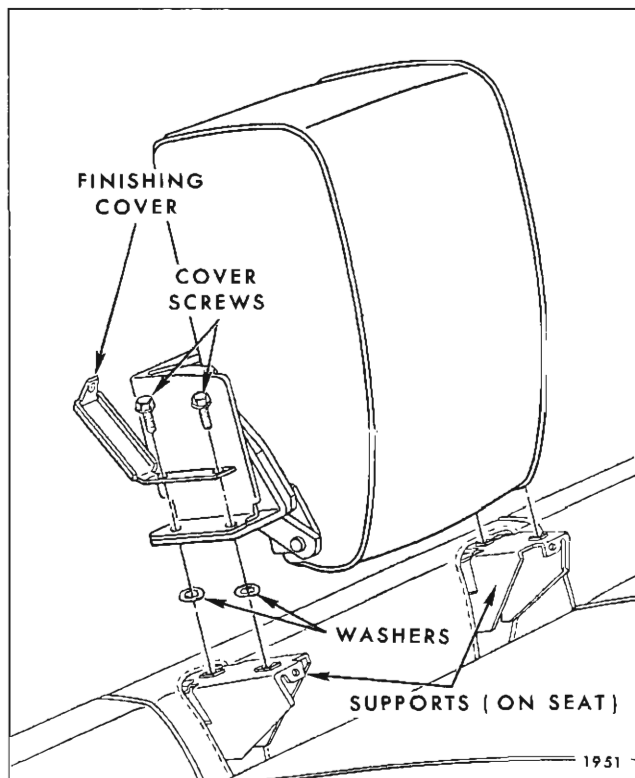

Fig. 1H50—Front Seat Center Arm Rest Supports
2. Remove screws securing arm rest to support (Fig. 1H49); then, remove support from arm rest, finishing cover and curtain.
3. To install, reverse removal procedure. Prior to bending down support screw finishing covers check alignment and operation of arm rest. Where necessary to align arm rest with seat back(s), install washer(s), as required, between arm rest support and supports on seat. (See Fig. 1H50).